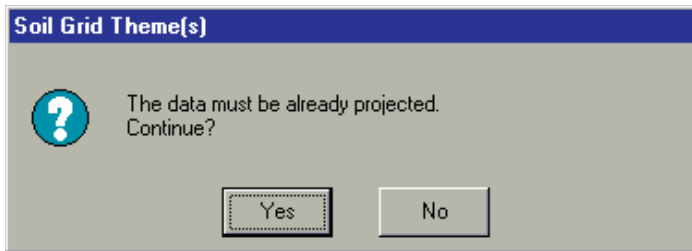

Figure 6.33
- ii. If loading from disk, a prompt dialog pops up (Figure 6.33).